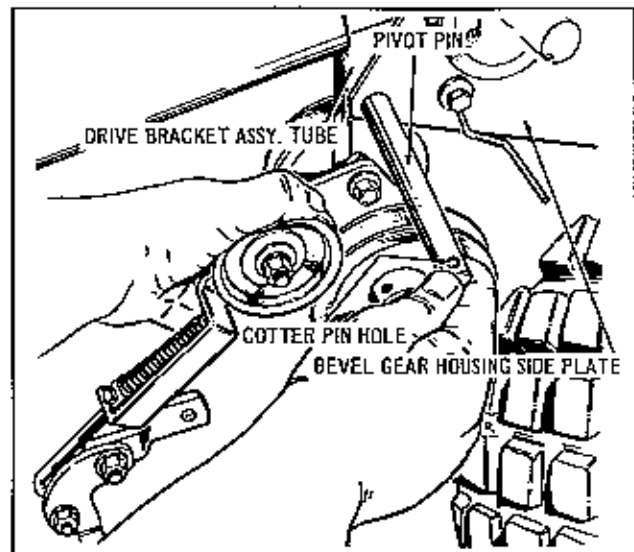

Figure 2
2. Holding the Power Take-Off Assembly in left hand as shown in Figure 2, position the tube of the Drive Bracket Assembly between the Bevel Gear Housing Side Plates. Align the holes in Side Plates with the holes in Drive Bracket Assembly Tube and insert Pivot Pin through holes in Side Plates and Drive Bracket Assembly Tube.